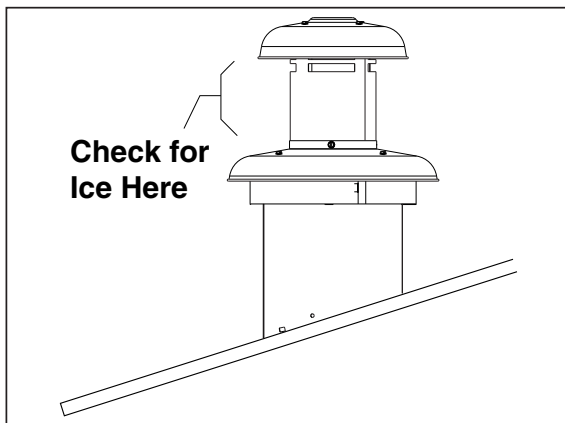

Figure 36. Roof Jack
3. Seasonal Service Information - During extremely cold weather, ice may form on the furnace roof jack. Small amounts of ice forming on the roof jack will present no problems to proper furnace operation. Excessive ice formation could restrict the combustion air supply to the burner, causing inefficient burner operation. If excessive ice has formed on the air inlet or exhaust portions of the roof jack, it must be carefully removed (Figure 36).